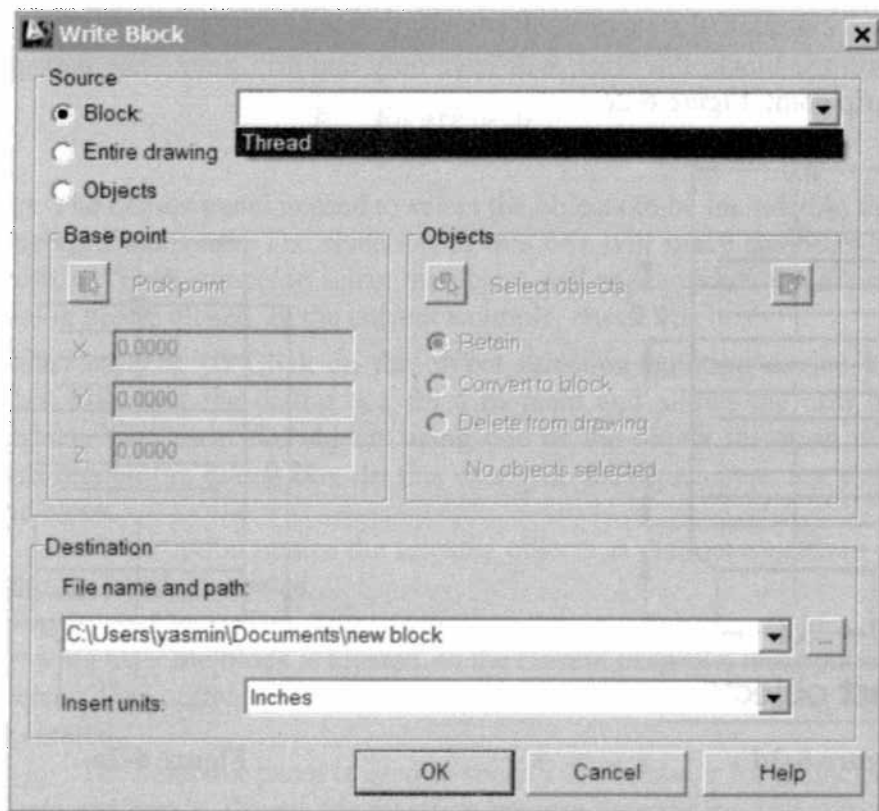

Figure 6-3a
- The *Wblock* command is activated using the command line method. At the command prompt, type *Wblock* and press the *Enter*. The *Write Block* dialog box (Figure 6-3a) will appear.